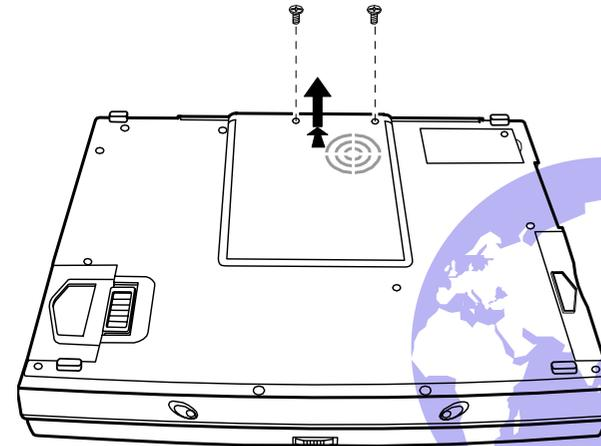

Figure 5-8. Removing the CPU Compartment Cover
2. Open the CPU compartment cover by removing two screws then sliding the cover toward the rear side to open it. (Refer to Figure 5-8.)
3. Replace the CPU compartment cover and secure with two screws. (Refer to Figure 5-8 earlier.)